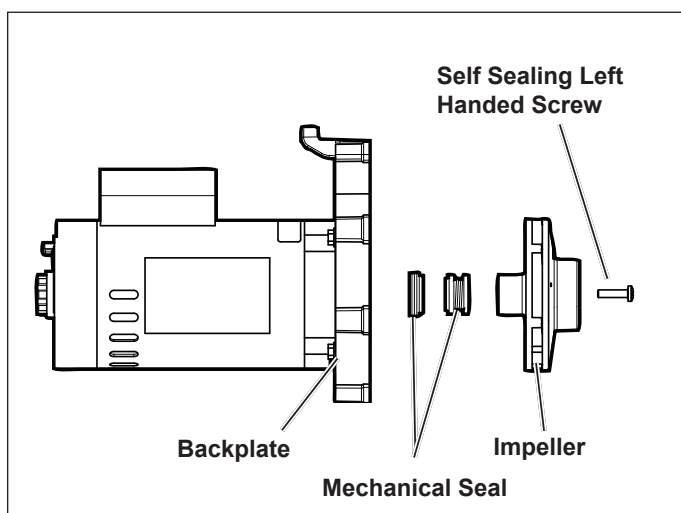

Figure 9. Remove the Impeller
7. Hold the exposed motor shaft with a ½" wrench while removing the impeller center screw using a No. 3 Phillips screwdriver. See Figure 9.